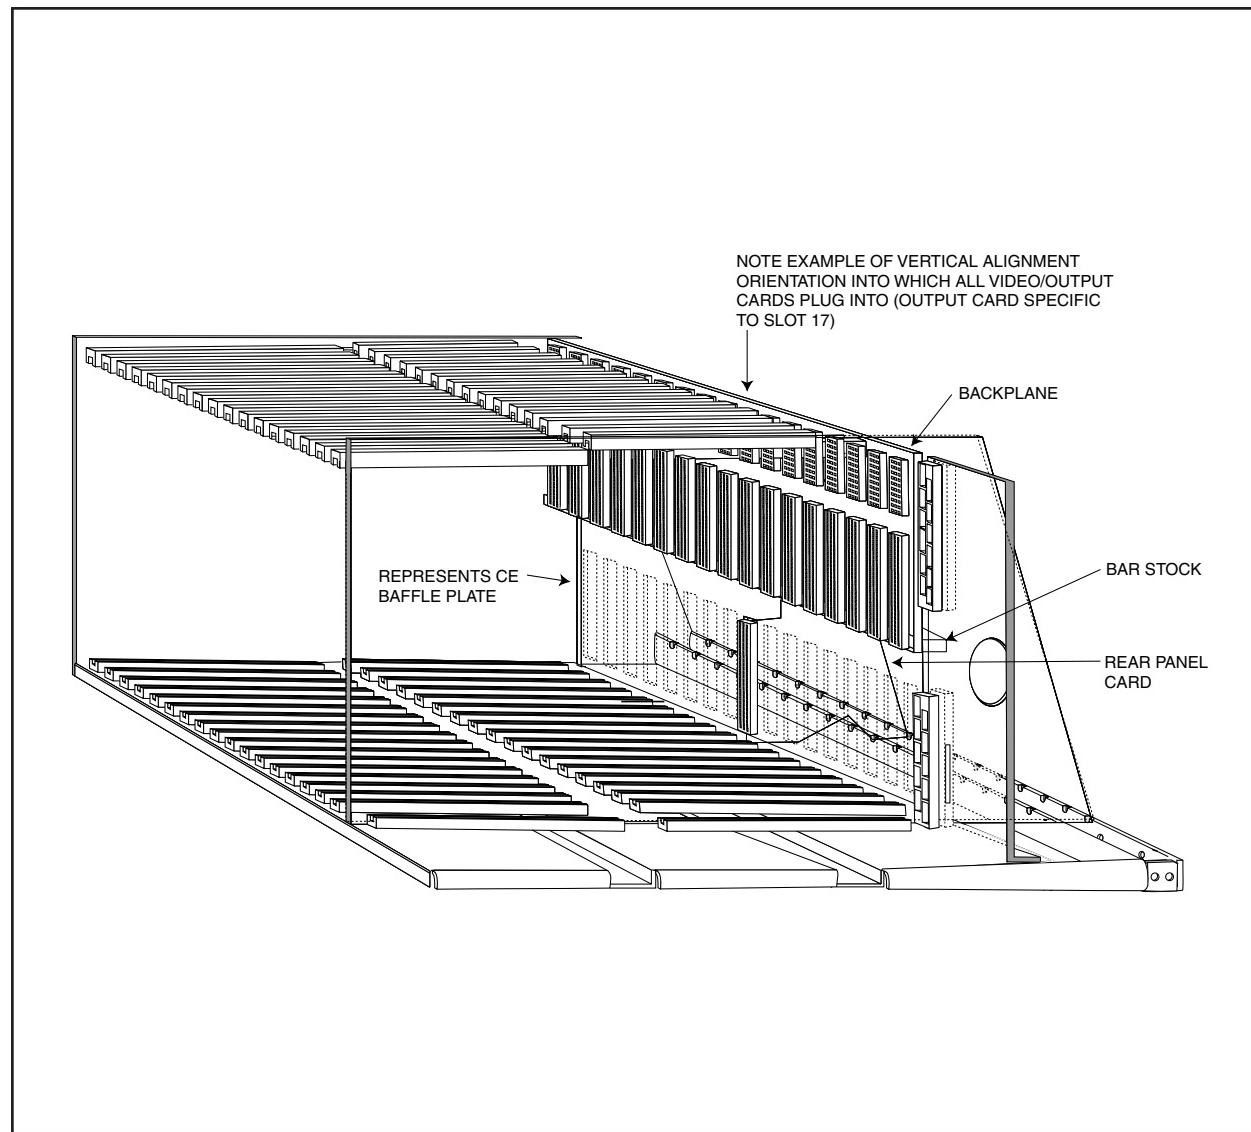
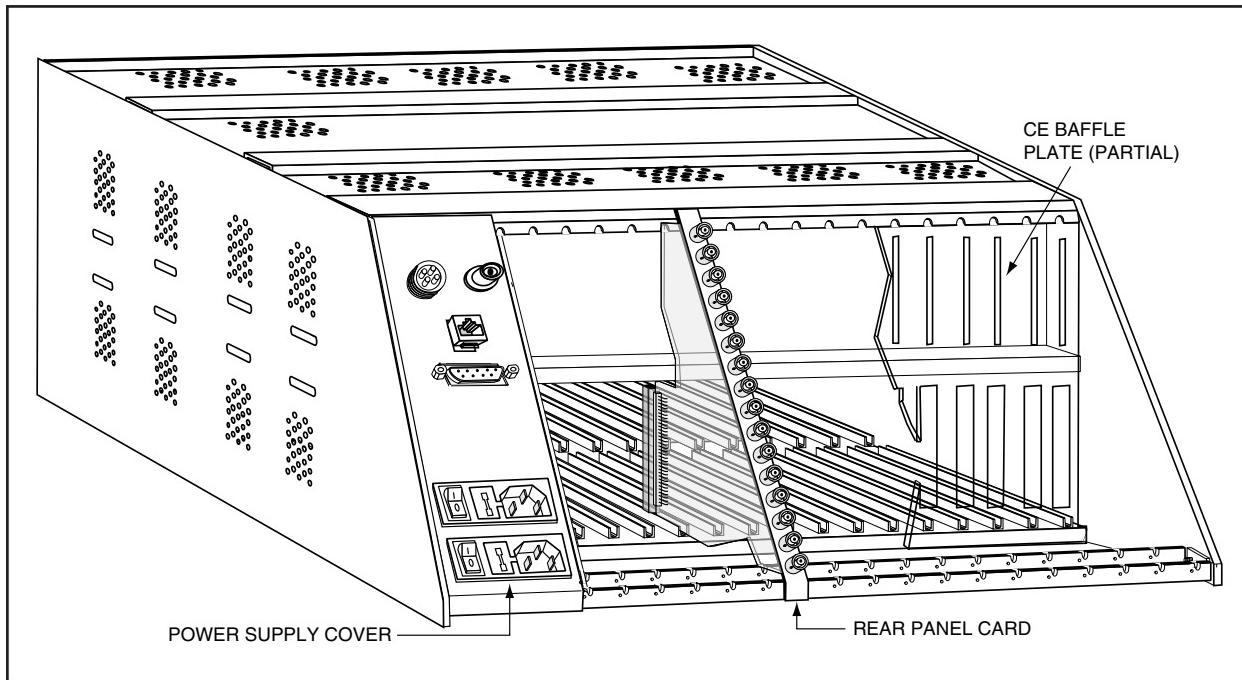
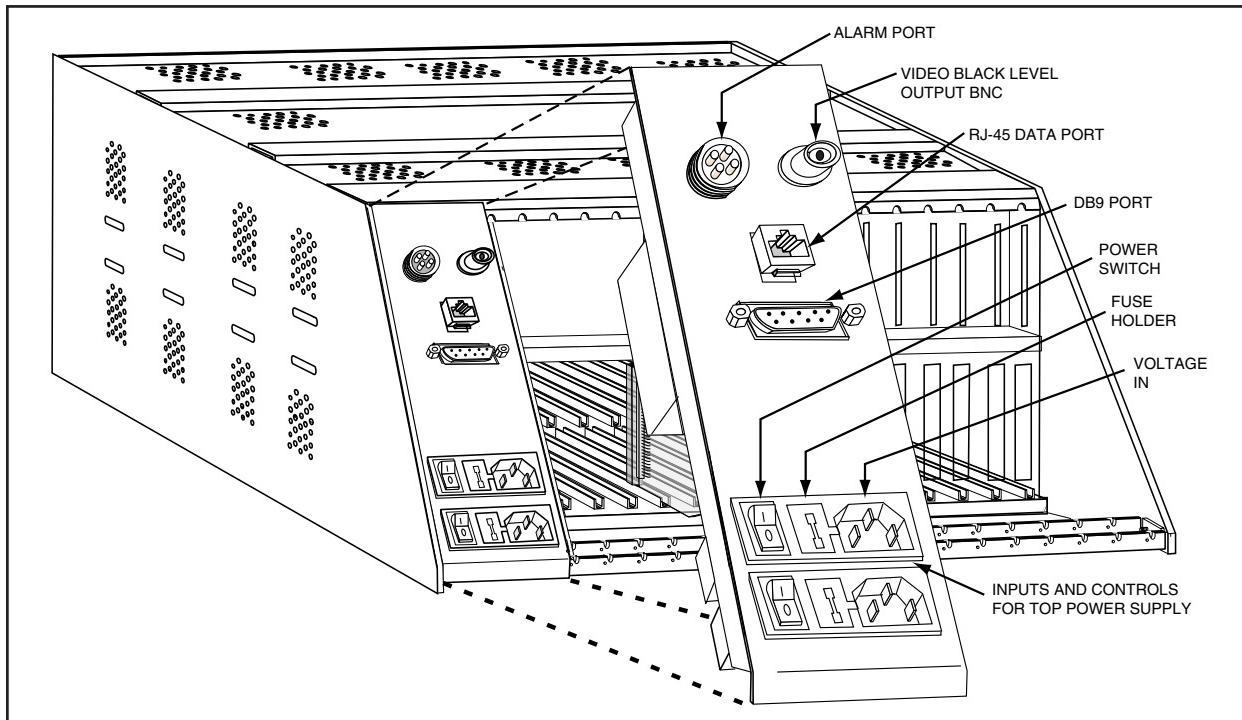

Figure 3. Matrix Bay Connection Geometry
Figure 4. Rear of Matrix Bay
Figure 5. Power Supply Section of Rear Matrix Bay
1/99	Revised Figures 4, 5, 6, 7, 8, and 24 per ECO #98-4147.
NOTE: There are three (3) connectors into which any Video Input or Output Card plugs into: the two on the backplane and one on the appropriate rear panel card (see Figure 3). This connection geometry holds true for all installed front loaded Video Input and Video Output cards.
Further disassembly allows one to see the backplane upon which are located two of the three connectors into which all installed Video Input and Video Output cards plug into (refer to Figure 3). The back plane is held in place by rectangular bar stock (top and bottom) which runs the width of the bay between the left side panel and the power supply plate which secures it in place. Power supply units, Video Input and Video Output Cards are all installed from the front of the unit. All other cards are installed from the rear of the unit (refer to Figure 4).
Also note in Figure 3 the baffle plate installed for CE purposes with appropriate openings for Rear Panel cards and their connectors to fit through. The baffle plate itself, extends the width and height of the matrix bay itself (excluding power supply sections).
The three connectors (consisting of two on the backplane and a single connector provided by a Rear Panel card as indicated in Figure 3) constitute the connection geometry for all Video Input and Output Cards. For any given card position an associated Rear Panel card (card type dependent on the function of the matrix bay into which it fits) must be installed FIRST.
A rear view of an empty matrix bay is shown in Figure 4.
The plate covering the rear section of the matrix bay dedicated to the power supply bays is shown on the left in Figure 4. This panel is populated with several items of importance, referred to in Figure 5. Located at the top left corner of the panel is the Alarm Port connector.
To the right of the Alarm Connector is a Video Black Level Output BNC which can be used as a reference sync output to allow for genlocking of peripheral devices. The signal level for this output is 300 mV. The connection for this output is a standard BNC connector. The output has a 75-ohm termination. The Video Black Level BNC can be seen in Figure 5.
Power supply input terminal plugs, ON/OFF switches, and power supply input fuses for both power supply positions (whether the power supply is installed or not) are located at the bottom of the power supply panel. The top set of this twin configuration is for the top power supply; the bottom for the bottom (refer to Figure 5). Further details of power supply configuration are discussed in Section 2.2.5 and 3.2.